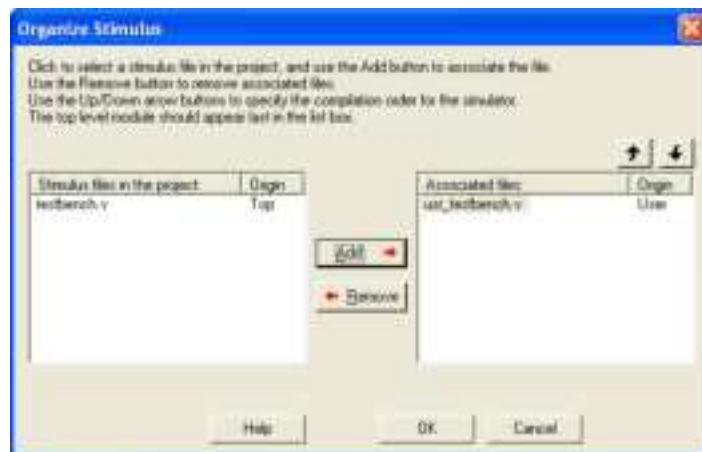

Figure 1-27 • Organize Stimulus Dialog Box
9. Right-click **Top** in the Hierarchy tab and choose **Organize Stimulus**. The Organize Stimulus dialog box appears (Figure 1-27).